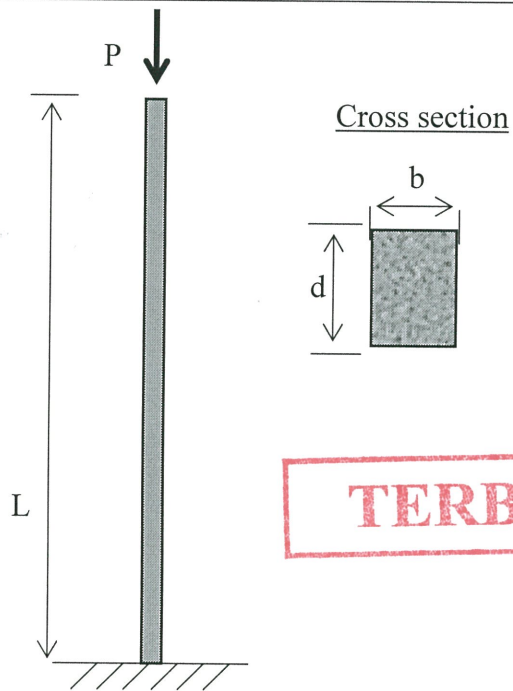

Figure Q2
- (b) An aluminum column built into the ground as shown in **Figure Q2** has length,  $L = 2.2\text{ m}$ , and is under axial compressive load  $P$ . The dimensions of the cross-section are  $b = 210\text{ mm}$  and  $d = 280\text{ mm}$ . The modulus of elasticity,  $E = 70\text{ GPa}$ .
(b) The beam in **Figure Q2** is subjected with distributed loading. Knowing the beam is fixed supported at one end and roller supported at the other end, determine: